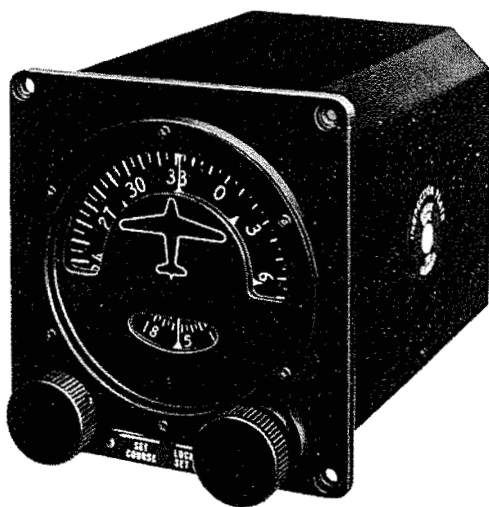

Figure 1 - Turn Indicator
b. The indications of the Type C-1 Turn Indicator (figure 1) and the Navy Directional Gyro Indicators (figures 1A, 1C, and 1D) are shown on the face of the instrument by a vertical compass card (dial) which is read in relation to the lubber line. Also, auxiliary indices are provided at 45, 90, and 180 degrees from the lubber line. This makes it possible to determine at a glance (without mental calculation) the heading to be flown when making 45-, 90-, or 180-degree turns.
c. The "LOCK AND SET CARD" knob (figure 1) of the Type C-1 Turn Indicator is used to cage (lock) the gyro, making the instrument non-indicating. The knob is also used to set the card to the desired heading, usually the magnetic compass heading to be flown.
d. The "SET COURSE" knob of the Turn Indicator (figure 1) is used to set the luminescent arrowhead of the course indicator dial to the heading to be flown. When the "SET COURSE" knob is released, the arrowhead is free to move with the card. This designates on the card a convenient reference point to keep aligned with the lubber line, removing the need for remembering or reading a numerical value to keep the aircraft "on course".